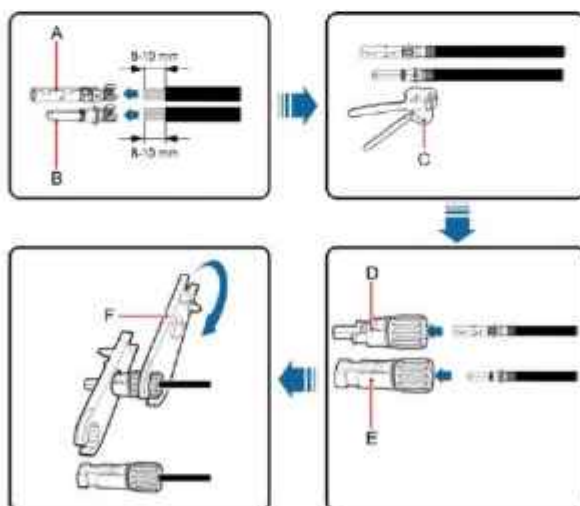

Fig 5.2 Connection of MC4 DC connector and PV string
- (1) Connect the output cables of solar modules to the DC connector as fig 5.2 shows. Loosen the nut of connector and remove the isolation layer of the DC cable for about 15mm. Insert it into the connector and press until hear the lock sound. Finally tighten the nut to a torque of 2.5-3 Nm. The wiring of negative pole is the same as that of the positive pole. Ensure the poles of solar modules are well connected with the connectors.